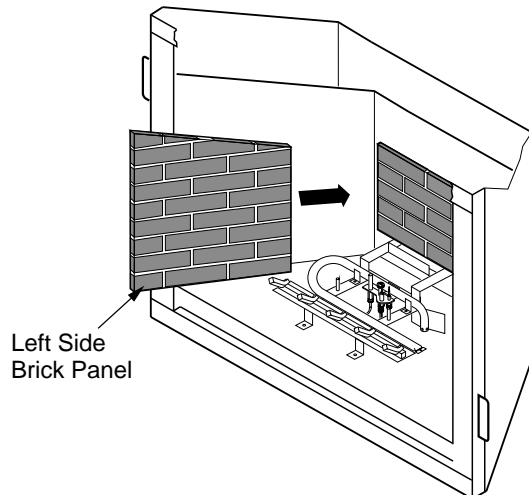

Figure 44 - Installing Side Brick Panels
- Install left side brick panel by sliding it between the grate and the side of the firebox (see Figure 44).